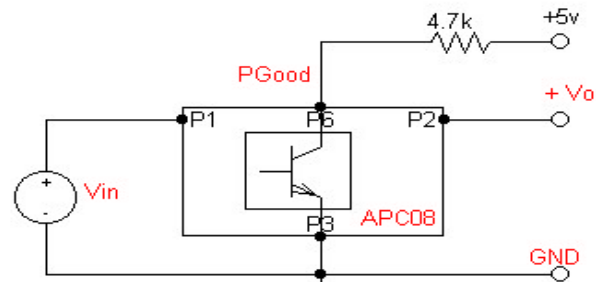

Figure 6. PGood setup.
7. See Figure 6 for PGood configuration
PG pin provides an output signal indicating the Vout is operational (TTL logic signal). It can sink current up to a max of 5mA and can have a maximum external pull-up voltage of 6V. Please see recommended setup shown on Figure 6.